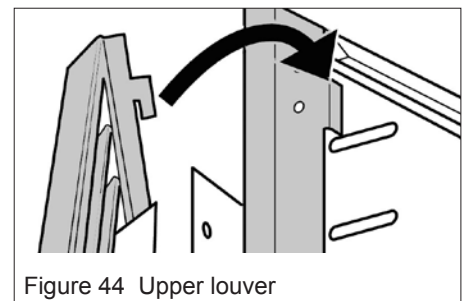

Figure 44 Upper louver
4. Attach the upper louver by hooking over the tabs near the top of the firebox sides. See figure 44.